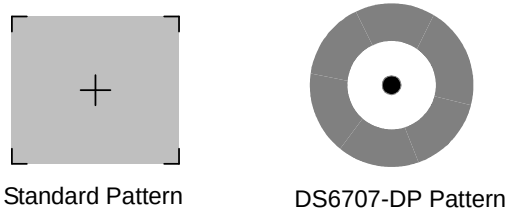

Figure 2-2 Laser Aiming Pattern
- When the digital imager scanner senses movement, in its default **Auto Aim** trigger mode, it projects a red laser aiming pattern (Figure 2-2) which allows positioning the bar code or object within the field of view. (To turn off the default **Auto Aim** trigger mode, see Trigger Mode on page 4-8.) If necessary, the digital imager scanner turns on its red LEDs to illuminate the target bar code.